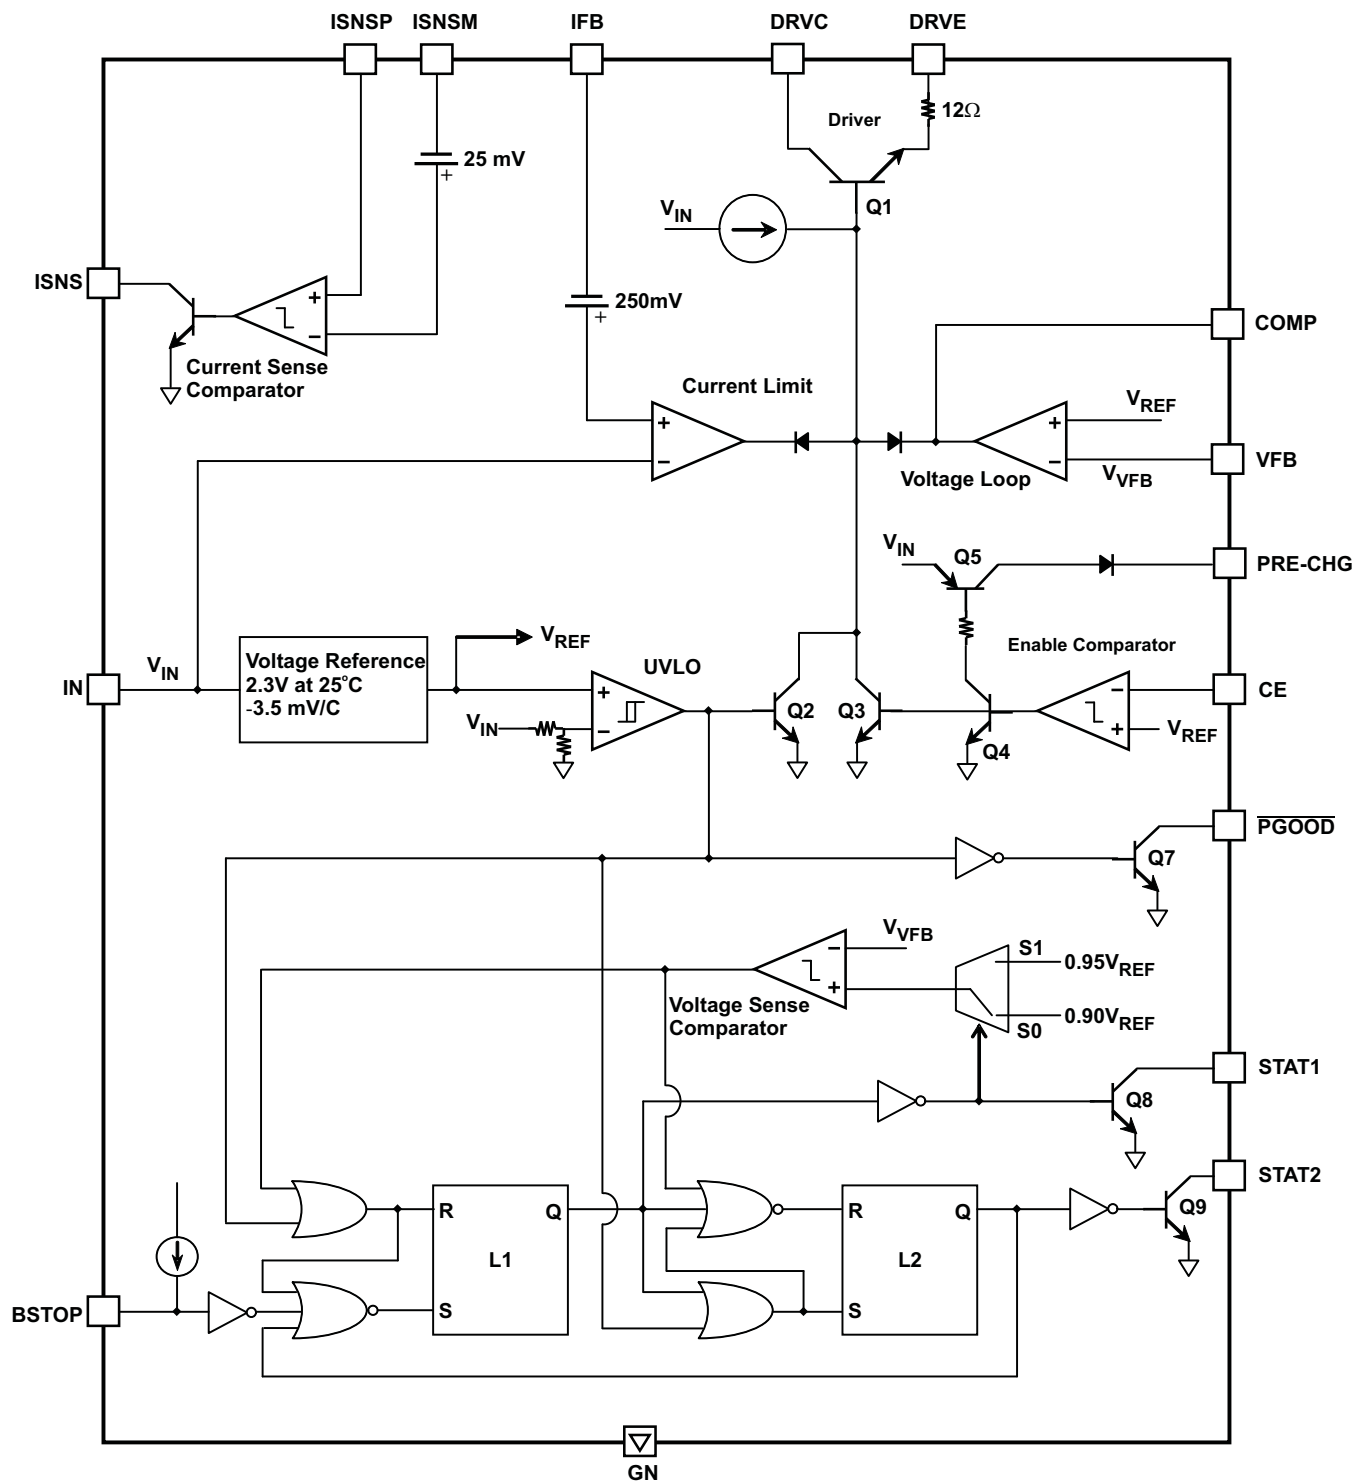
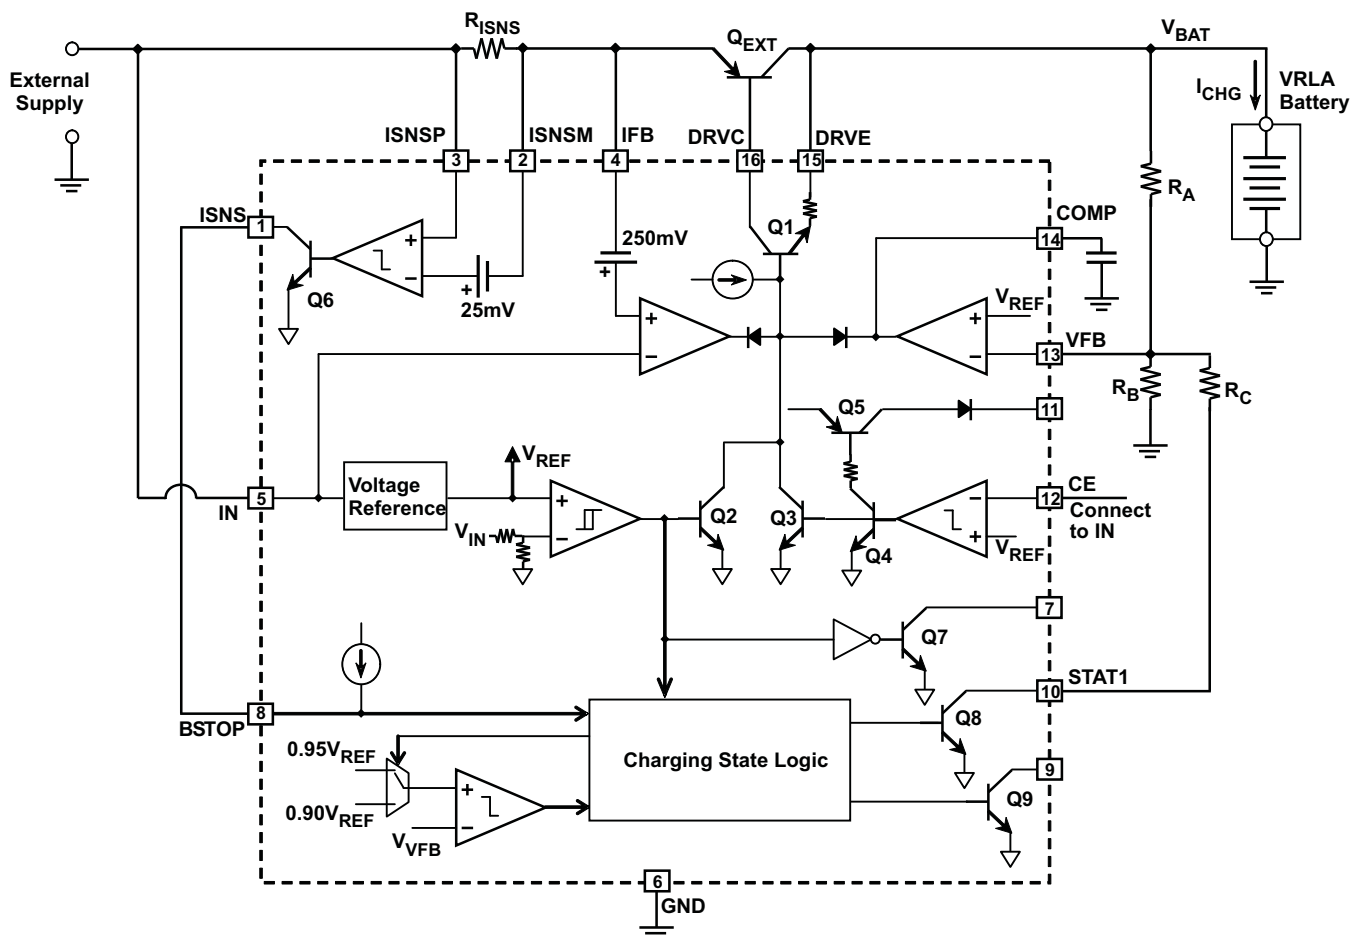
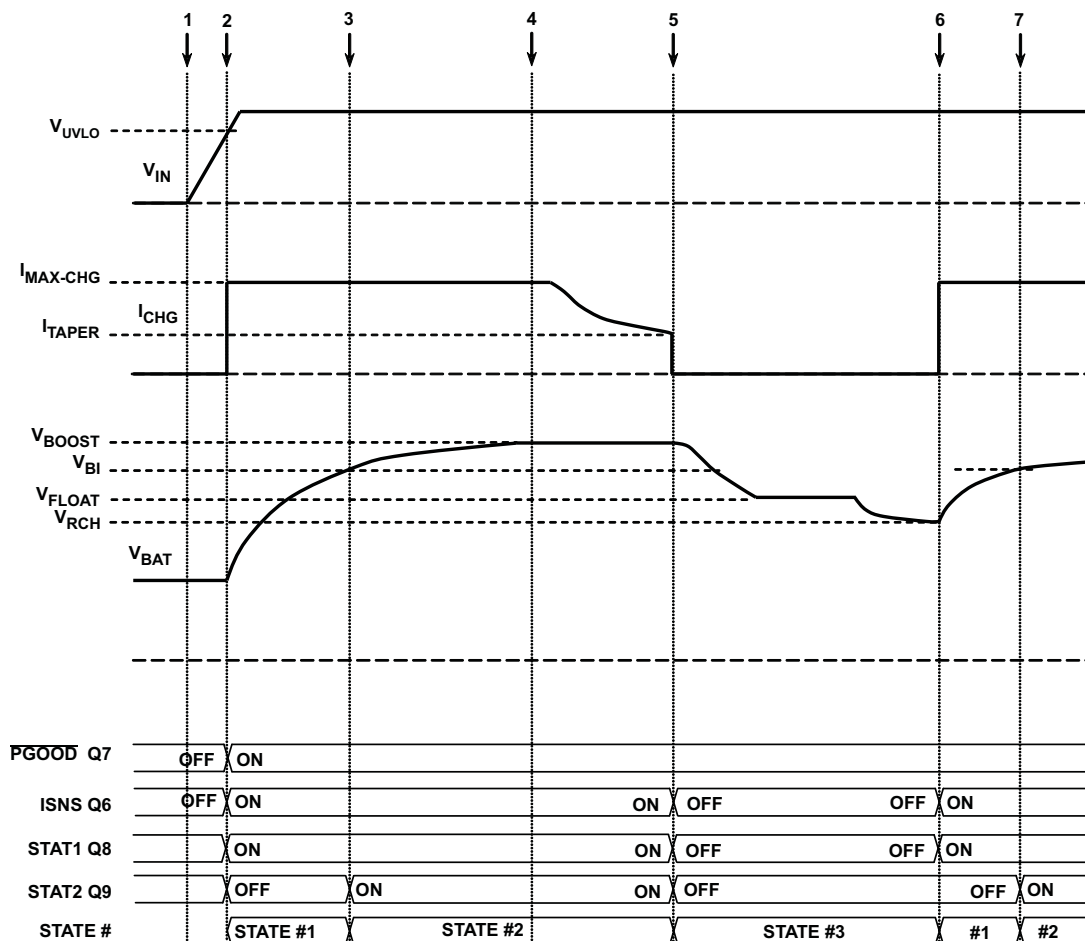

Figure 1. Simplified Block Diagram
Figure 3.
Figure 4.
Only an external pass transistor and minimum number of external passive components are required along with the IC to implement a charger for sealed lead-acid batteries. The IC's internal driver transistor Q1 (see Figure 1) supports NPN as well as PNP pass transistors, and provides enough drive current (25mA specified) to support a wide range of charging rates.
The driver transistor is controlled by a voltage regulating loop and a current limiting-limiting loop (see Figure 1). The current-limiting loop reduces drive when the voltage between the IN pin and the IFB pin increases towards V_{ILIM} (250mV typical). The voltage regulating loop tries to maintain the voltage on the VFB pin at V_{REF} . Together, these two loops constitute a current-limited precision constant-voltage system, which is the heart of any lead-acid charger. The voltage regulating amplifier needs an external compensation circuit which depends on the type of external pass transistor (see Application Information section).
An undervoltage lock-out circuit is also provided (see Figure 1). This circuit disables the driver transistor as long as the input voltage is below UVLO (4.5V typical). The UVLO circuit also drives an open-collector output PGOOD.
Figure 3 shows the bq24450 configured as a simple dual-level float-cum-boost charger. Figure 4 shows the sequence of events that occur in a normal charge cycle. At (1) in Figure 4, power is switched ON. As long as the input voltage V_{IN} is below the undervoltage lockout threshold UVLO, Q2 is ON, disabling the driver transistor Q1. As the input voltage V_{IN} ramps up and rises above UVLO Q2 turns OFF. This enables Q1 and thus the external transistor Q_{EXT} . At the same time, Q7 turns ON, latch L1 is forced to RESET and latch L2 is SET (see Figure 1 for the internals of the Charging State Logic).
As charging proceeds, the voltage at the VFB pin increases further to V_{REF} . At this point, the voltage regulating amplifier prevents the voltage at the VFB pin from rising further, maintaining the battery voltage at V_{BOOST} . [(4) in Figure 3].
As long as the peak load current is less than $I_{MAX-CHG}$, it will be supplied by Q_{EXT} , and the voltage across the battery will be maintained at V_{FLOAT} . But if the peak load current exceeds $I_{MAX-CHG}$, the battery will have to provide the excess current, and the battery terminal voltage will drop. Once it drops below $0.9V_{REF}$, at (6) in Figure 3, a new charge cycle is initiated. The battery voltage V_{BAT} at this point, V_{RCH} , is given by:
The problem with the charger circuit shown in Figure 3 is that even with deeply discharged batteries, charging starts at full current level $I_{MAX-CHG}$. This can sometimes be hazardous, resulting in out-gassing from the battery. The bq24450 can be configured to pre-charge the battery till the voltage levels rise to levels safe enough to permit charging at $I_{MAX-CHG}$.